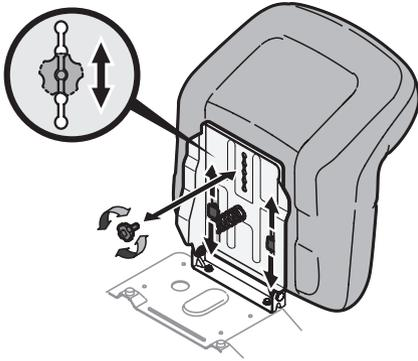

Figure 10
1. To adjust the position of the seat, remove the adjustment knob on the bottom of the seat. Slide the seat forward or backward as desired. Reinstall the adjustment knob. Refer to Figure 10.